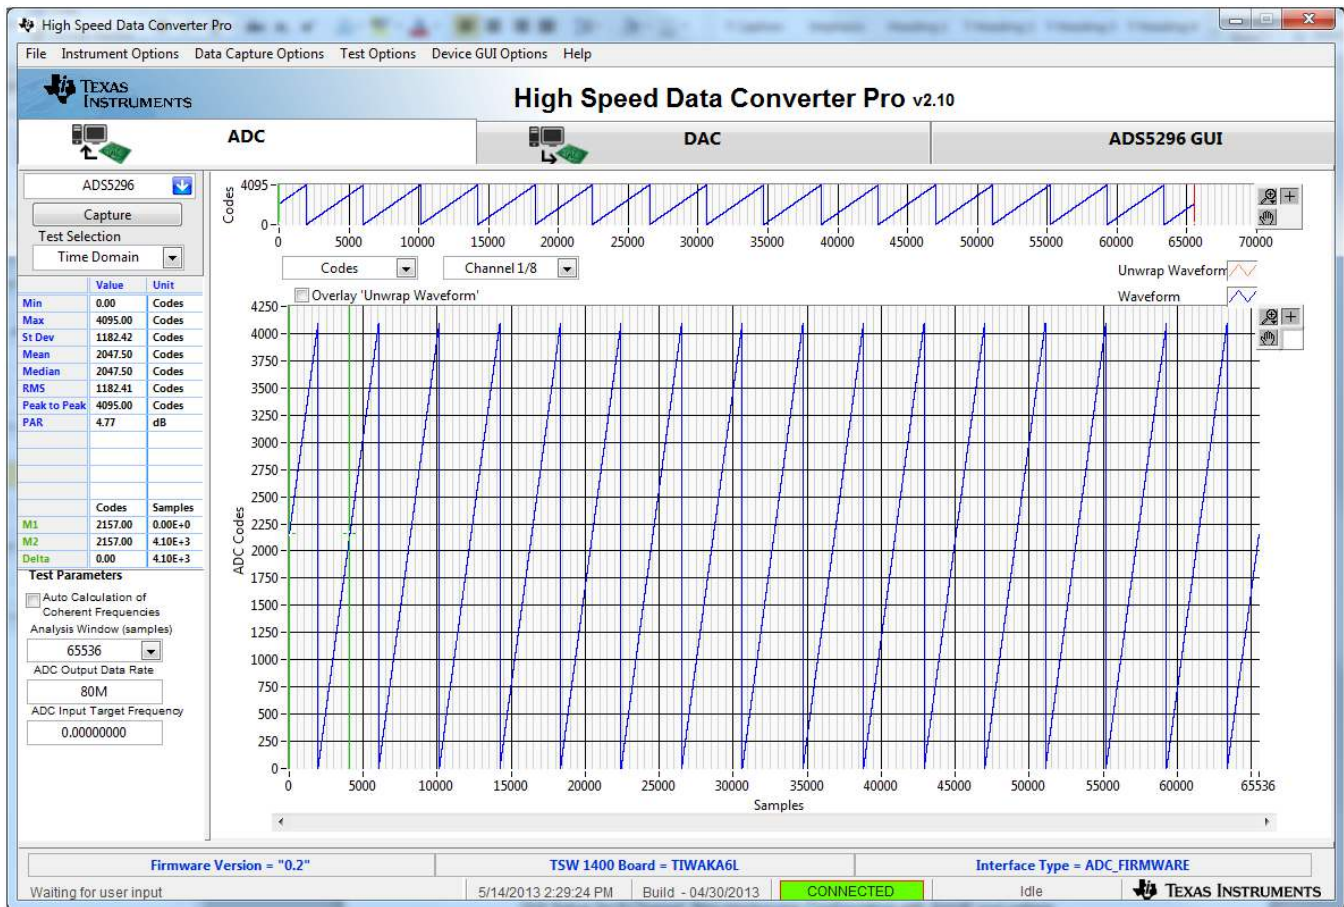

Figure 33. RAMP Capture
3. The saw tooth waveform should be captured and displayed as in Figure 33.